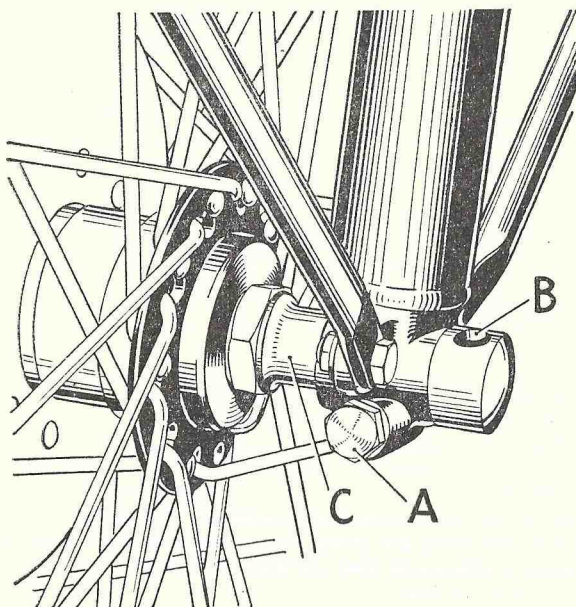

Fig. 28. Front Wheel Removal.
To remove the front wheel, first disconnect the brake cable, then slacken the pinch bolt (A) Fig. 28. Insert a tommy bar in the hole in the head of the spindle at (B) and unscrew the spindle, noting that it has a left-hand thread and therefore unscrews in a clockwise direction. With the spindle withdrawn the bush (C) should be pulled out to its fullest extent. This will leave the wheel free to be pulled away from the right-hand fork leg and withdrawn from the machine.